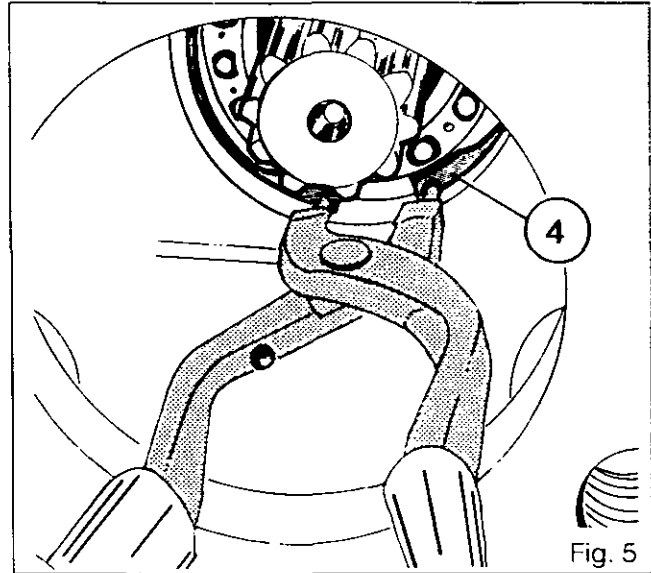

Fig. 5
11. Remove the circlip (4) with long-nose pliers (Fig. 5).
12. Withdraw the shaft (8) with the ball bearing (5), then remove the coupler (10).
**Note: If it is unnecessary to remove the circlip (7), leave it in the housing.**
13. Remove the circlips (6) and (9).
14. Extract the ball bearing (5) with a press.
15. Extract the plug (24).
16. Remove the circlip (23) and the spacer (22).
18. Remove the cup (20).
19. Withdraw the shaft (18) assembled with the bearing cone (19) and the circlip (17), while holding the gear (16).
20. Remove the gear (16) and the bearing cone (15).